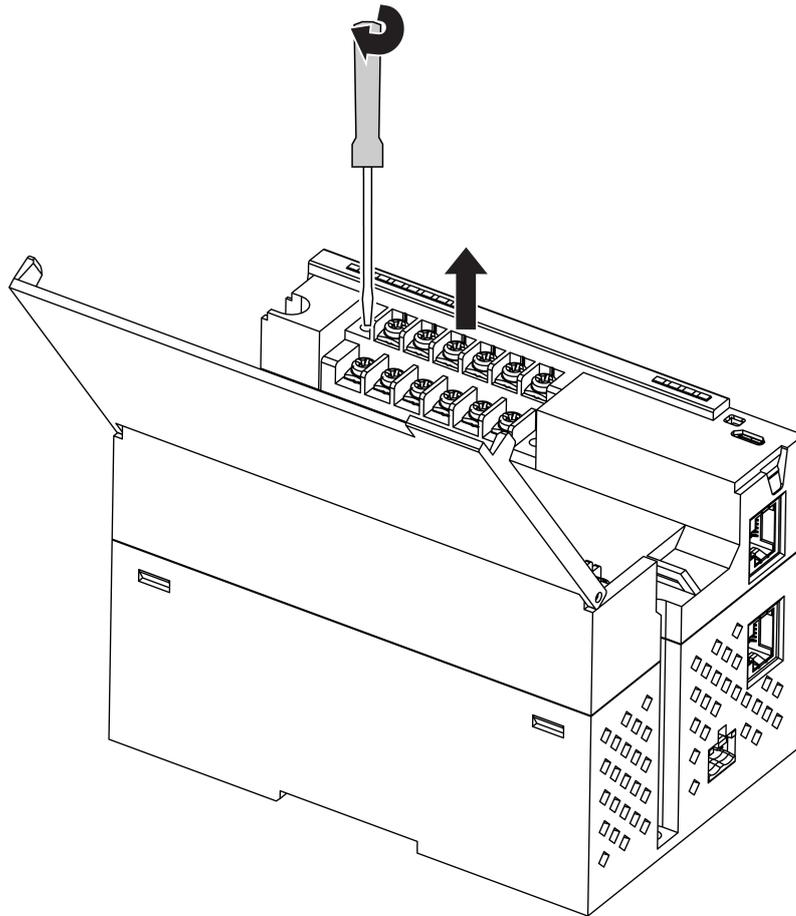

Fig. 7.2 Remove the second terminal block
6. Remove the second terminal block as shown in *Figure 7.2*.